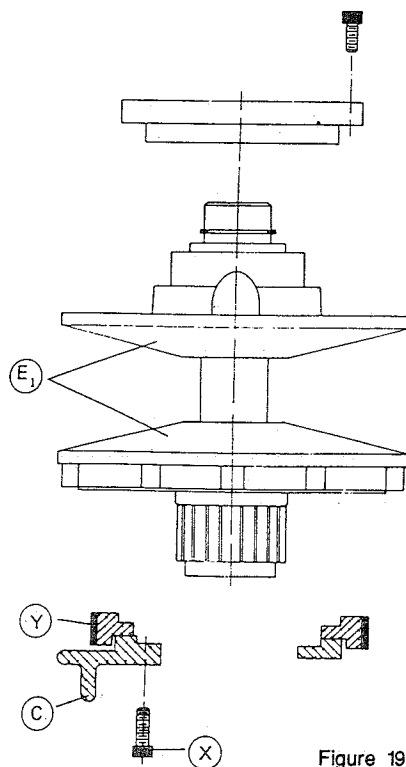

Figure 19
(3) Replacement of Brake Block (Figure 19):